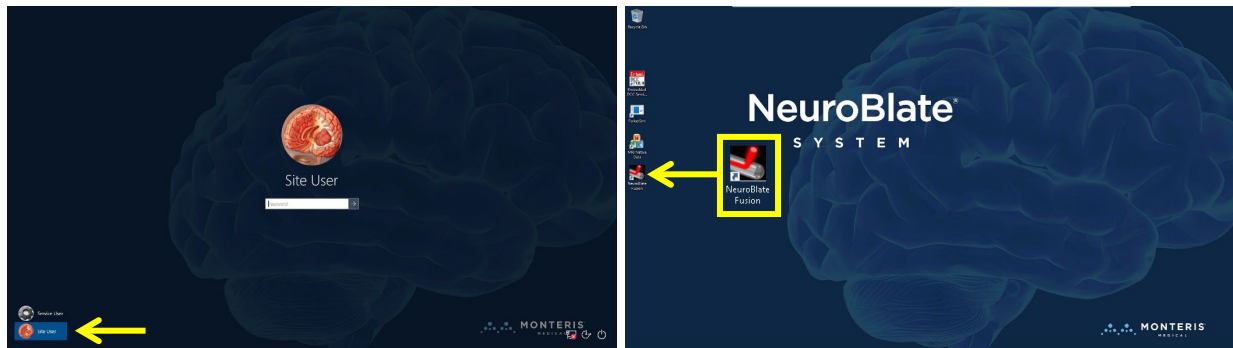

Figure 7.4.1: Boot Up Display (left) and Desktop Display (right)
The LCD monitor in the Control Workstation monitor will display the boot up sequence after system power-on. When completed, the login display will appear (Figure 7.4.1 left).
- Click the icon labeled *Site User* (yellow arrow Figure 7.4.1 left)
- Double-click the *NeuroBlate Fusion* icon to launch the software application (Figure 7.4.1 right)